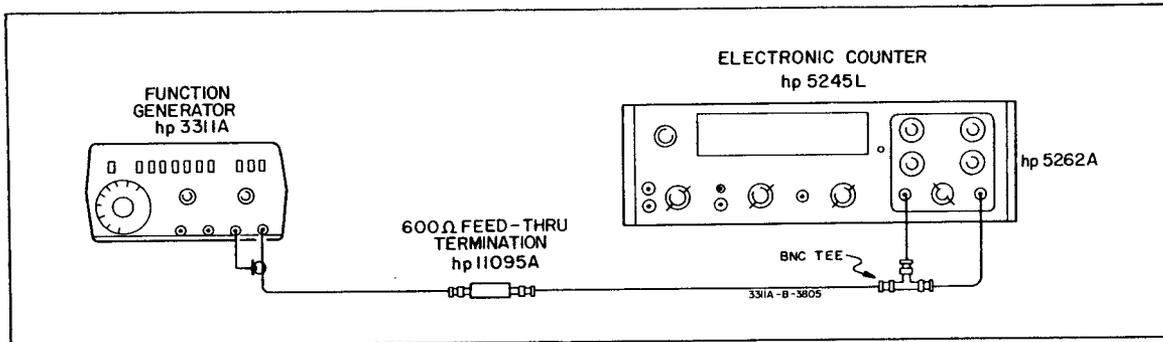

Figure 5-8. Symmetry Adjustment.
- c. Connect an electronic counter to the terminated output of the Model 3311A as shown in Figure 5-8. Alternately measure the periods of the positive and negative portions of the waveform and adjust A1R23 until these periods are equal.